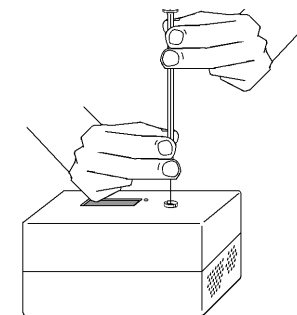

Figure 3
- Important:** Supporting the needle guard and the lower part of the needle with two fingers, as shown in Figure 3, can prevent the possible bending of the needle. Insert the needle into the injection port until the needle stop is fully seated. If the needle sticks, rotate it slightly while inserting. Do not move the plunger yet.